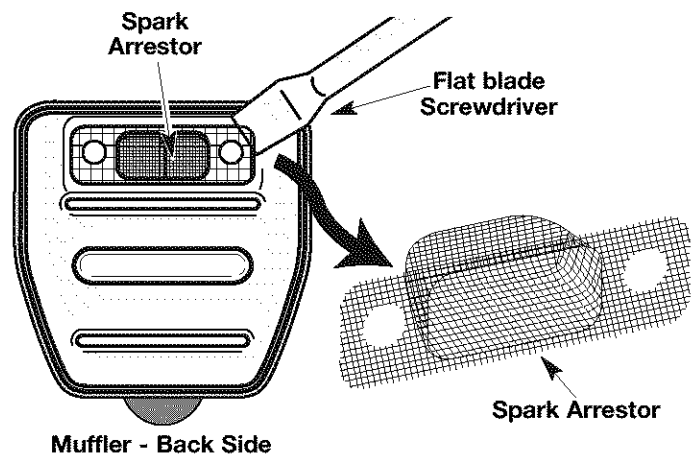

Fig. 28
4. Using a small flat blade screwdriver, carefully pry up the spark arrestor from the recessed hole (Fig. 28). Remove spark arrestor from muffler.
5. Clean the spark arrestor with a wire brush. Replace if damaged or unable to clean thoroughly (Fig. 28).